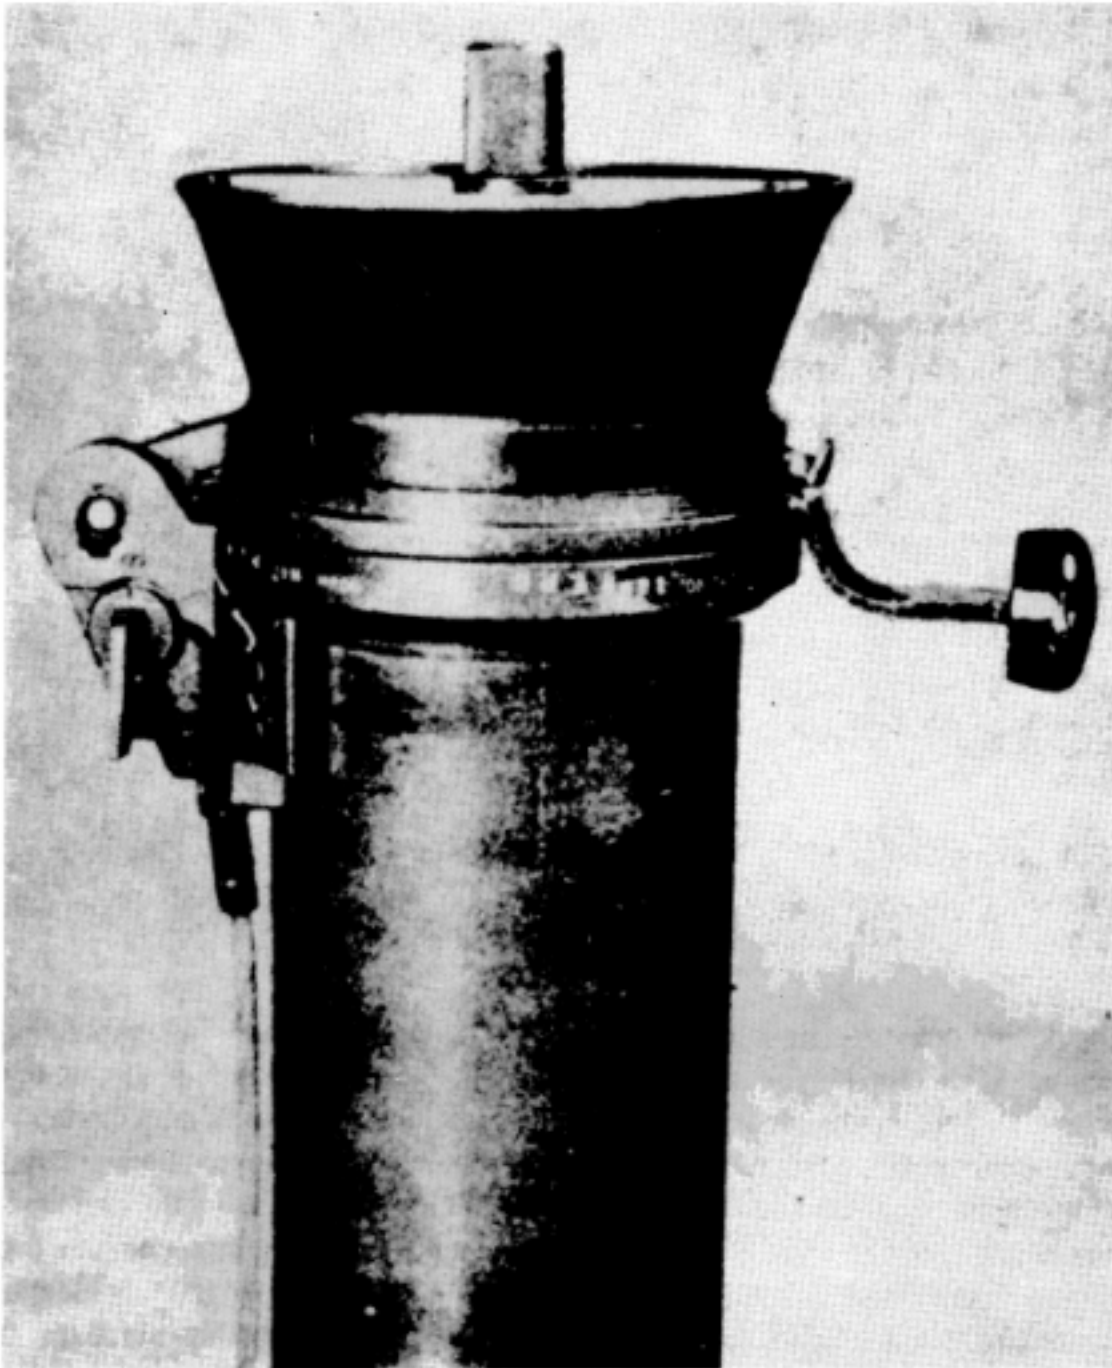

Figure 19. Safety arm in safe position.
b. Loading 90mm Rifle (fig. 18). To load the 90mm rifle, the loader inserts a cartridge into the chamber and completely chambers it by sharply pushing the cartridge all the way forward. To close and lock the breech, he grasps the lockring handle with his right hand, moves the breechblock forward until it is seated in the breech, and rotates the lockring counterclockwise until it is fully locked. Upon locking the breech, he inspects the backblast area to see that the area is clear. If the area is clear, he moves the safety arm to the fire position *F* (fig. 19), taps the gunner on the shoulder, and calls UP to indicate to the gunner that the rifle is ready to fire. Figure 19 Shows the safety arm in the safe position.